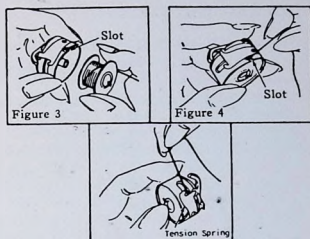

Fig. 5. Tension Spring
Step 2: Insert bobbin into bobbin case, pull the thread into the slot of the bobbin case as shown in Fig. 4, and draw it under the tension spring and into the fork-shaped opening of the spring as shown in Fig. 5.